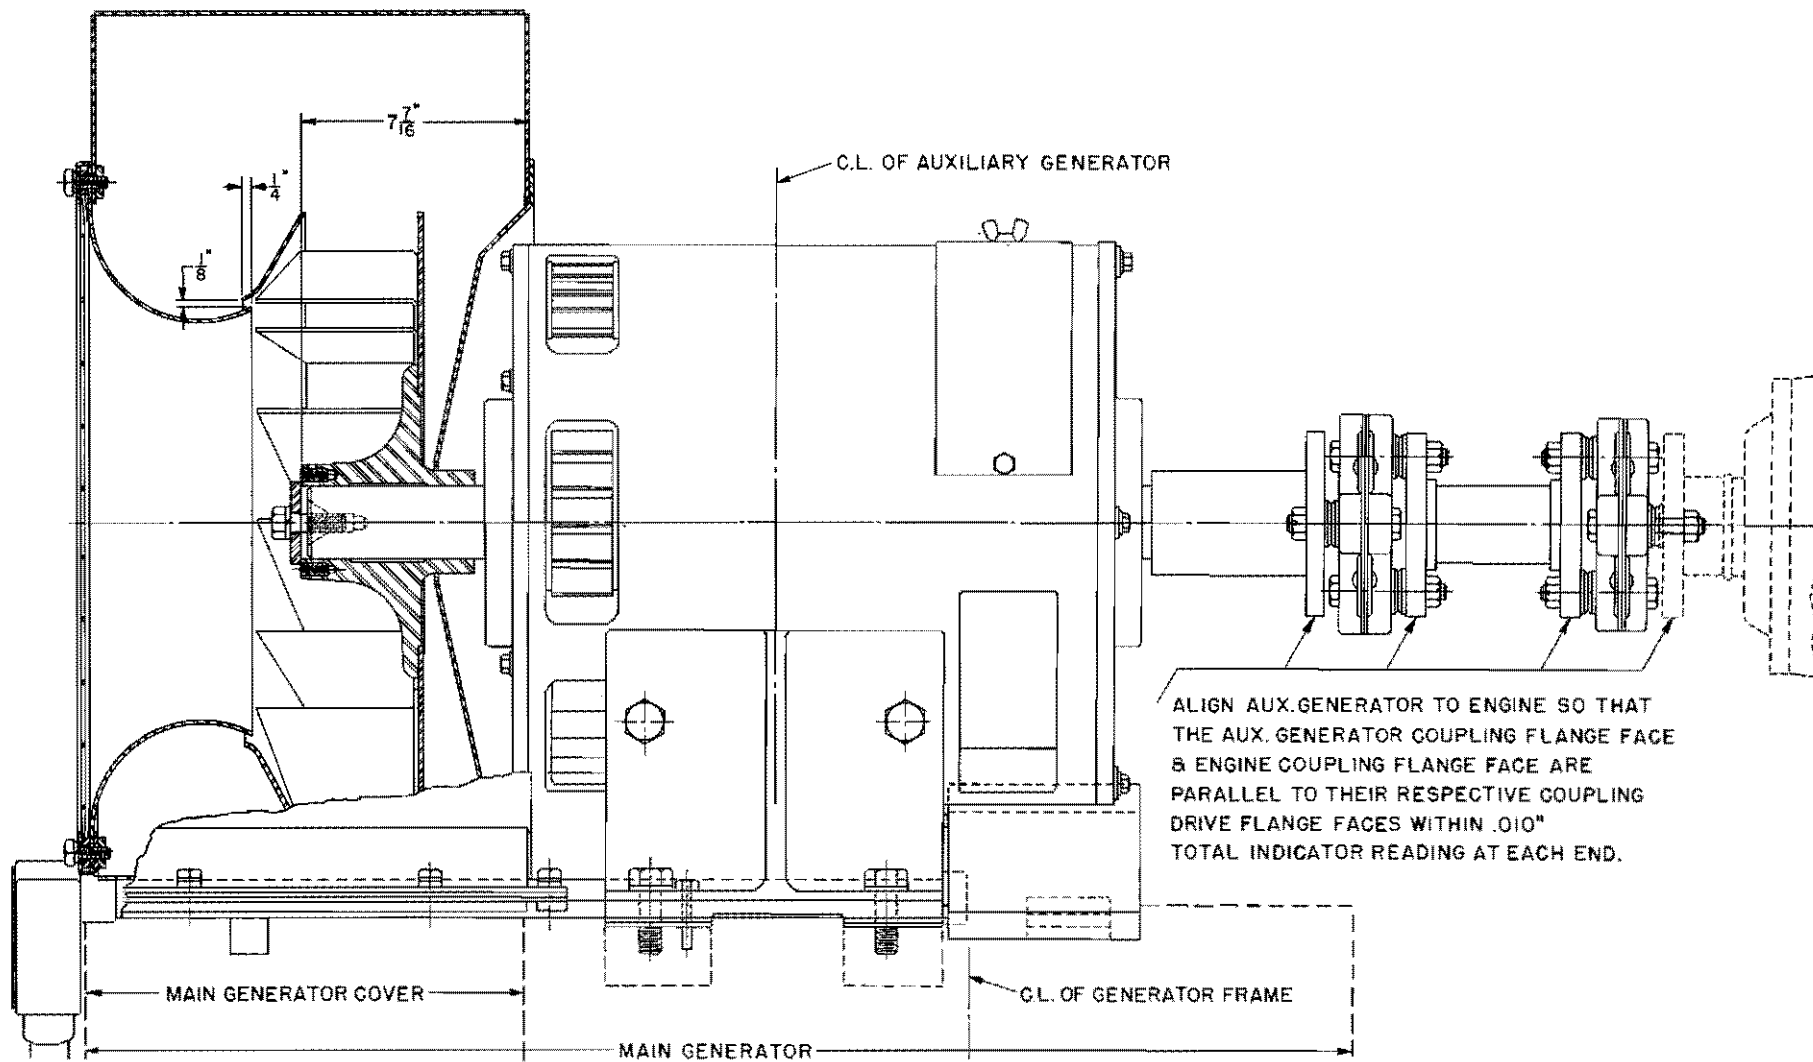

Fig. 12 - Auxiliary Generator Alignment
3. Apply key to both ends of generator shaft. Be sure keys are not loose on shaft. On commutator end of generator shaft apply coupling flange (push fit). Lock flange in place with plate washer, lock washer and bolt, see Fig. 12.
11. Apply blower air intake and air intake screen guard to blower housing, see Fig. 12.